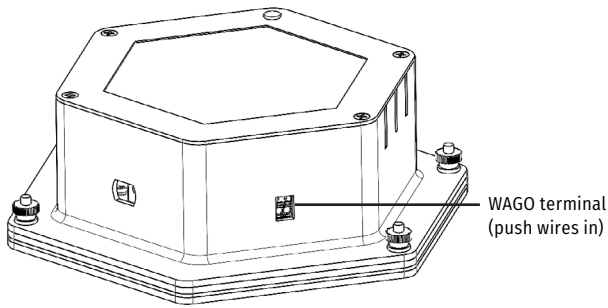

Fig. 8 WAGO Terminals
1. Light stick connection will receive power from WAGO connection located on the Active Gold unit (See Fig. 8).